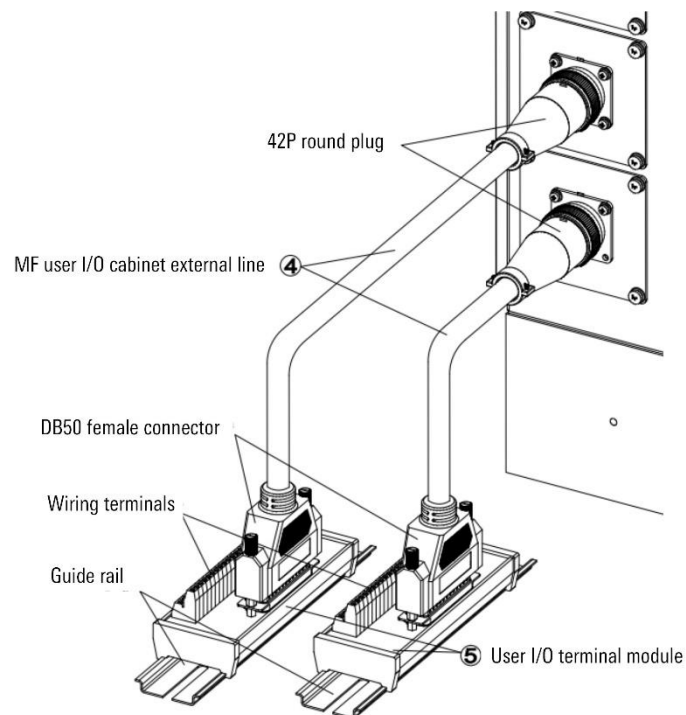

Figure 16-14 Connecting the user I/O terminal module
**Step4.** Connect one end of the MF user I/O cabinet external line with a 42P round plug to the 42P square flange socket on the cabinet, and the other end of the DB50 female connected connector to user I/O terminal module on the DB50 male socket, user I/O terminal module is fixed in the appropriate position through the guide rail according to the actual needs of the customer. Users can use the I/O functions through the terminal blocks on it. The two user I/O terminal modules are DI module and DO module respectively. There is no hard distinction requirement. They are distinguished according to the actual convenience of use. Refer to Figure 16-14.